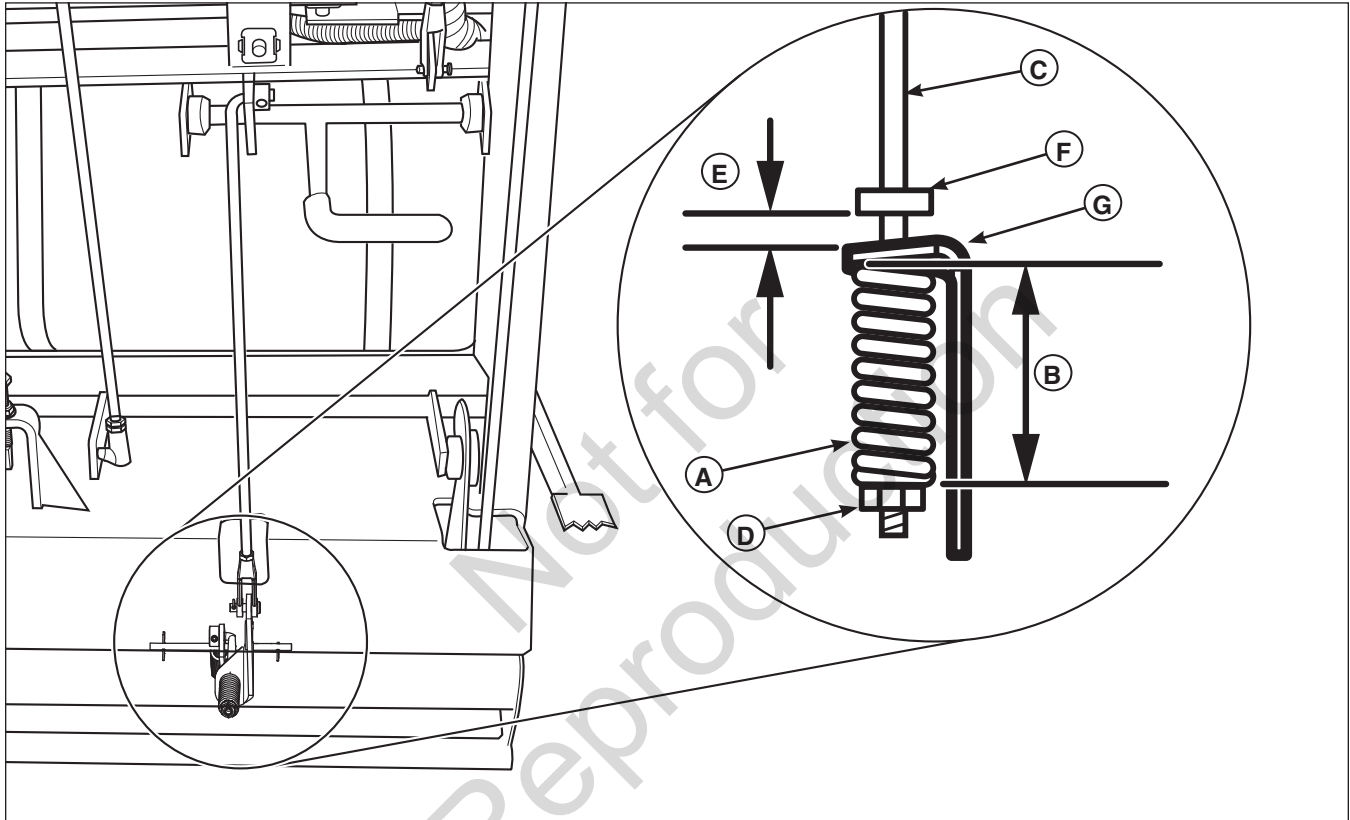

Figure 27. Parking Brake Adjustment
2. Locate the brake spring (**A**, **Figure 27**) underneath the rear of the machine.